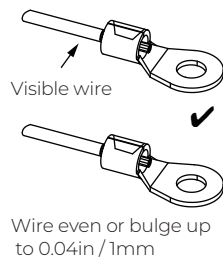

Fig. 7-4-3
Step 3: Fix the OT terminal with M5 screws at the position shown in Fig. 7-4-3.